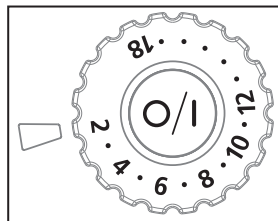

Figure 3
3. Set the Cup Selection Dial to the desired amount of grounds (Figure 3).